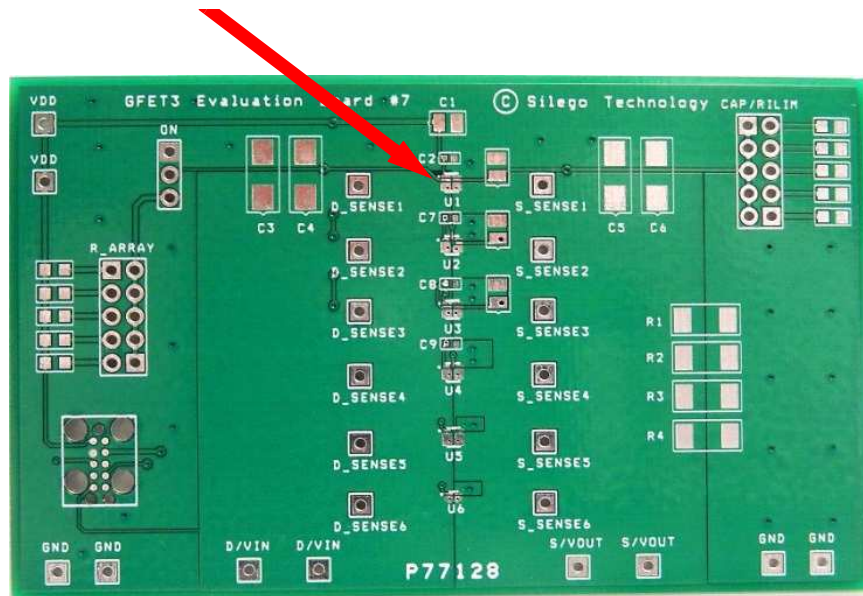

Figure 1. SLG59M1457V Evaluation Board.
2. Since the D and S pins dissipate most of the heat generated during high-load current operation, it is highly recommended to make power traces as short, direct, and wide as possible. A good practice is to make power traces with an absolute minimum widths of 15 mils (0.381 mm) per Ampere. A representative layout, shown in Figure 1, illustrates proper techniques for heat to transfer as efficiently as possible out of the device;
A GreenFET Evaluation Board for SLG59M1457V is designed according to the statements above and is illustrated on Figure 1. Please note that evaluation board has D\_Sense and S\_Sense pads. They cannot carry high currents and dedicated only for RDSON evaluation.